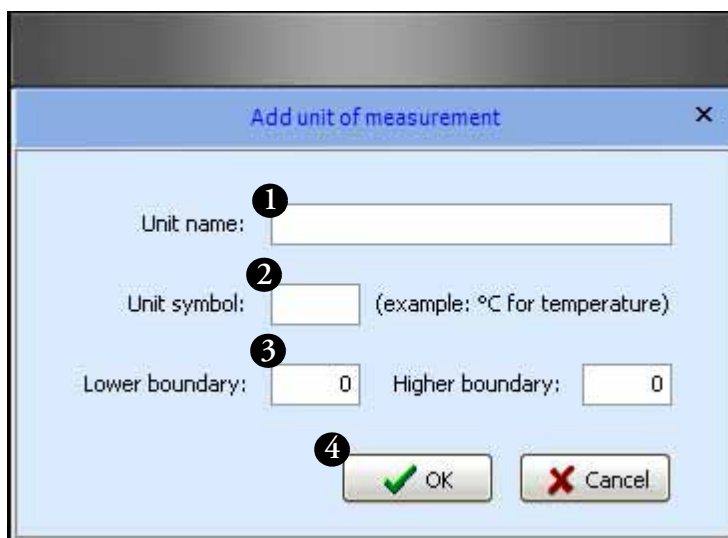

Figure 44. Measurement unit details
- Enter the name of the unit you wish to add in **Unit name** (#1 in Figure 44)